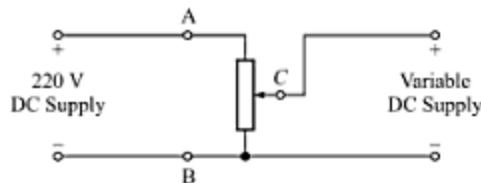

Fig. 1.11 Variable dc supply.
Variable DC Supply can be obtained by using a suitable **rheostat** (a variable resistance), as shown in Fig. 1.11. This arrangement has the disadvantage of incurring considerable power loss in the resistance.
(4) Rheostat It is a variable resistance made up of a closely wound wire of high resistivity (such as nickel-chromium-iron alloy) over a circular insulating (asbestos or porcelain) tube. These are available both in single-tube and double-tube configurations. A rheostat is specified in terms of its resistance and the maximum current it can carry. Normally, it is $1000\ \Omega$, $1.2\ A$ and $100\ \Omega$, $5\ A$. Rheostats are used as variable resistances and as potential dividers (as in Fig. 1.11).
(5) Loading Devices Commonly used loading devices are (i) lamp bank, and (ii) loading rheostats. A *lamp bank* consists of a number of 230-V lamps (100 W, 60 W, 40 W, etc.) suitably connected and controlled by switches to provide different loads. A *loading rheostat* consists of a number of identical resistive elements, suitably connected in series, parallel and combinations thereof.